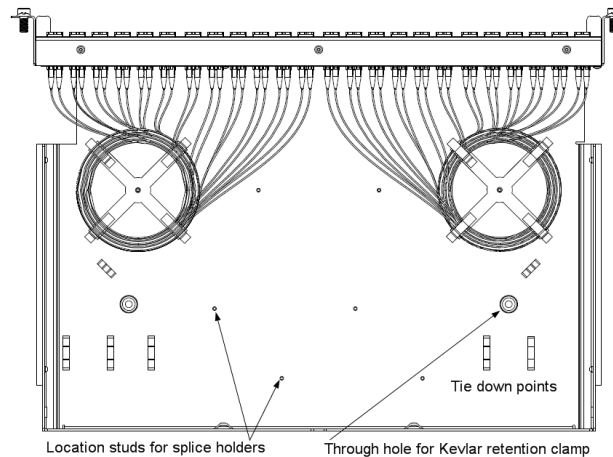

Figure 5 - Top view of RFR panel
6. Secure aramid yarn with the Kevlar retention clamp. Refer to Figure 5.
2. If the splice option is used, location studs for 2 x fusion splice holders (p/n AFR-00190) can be found at the back of the tray. Refer to Figure 5.